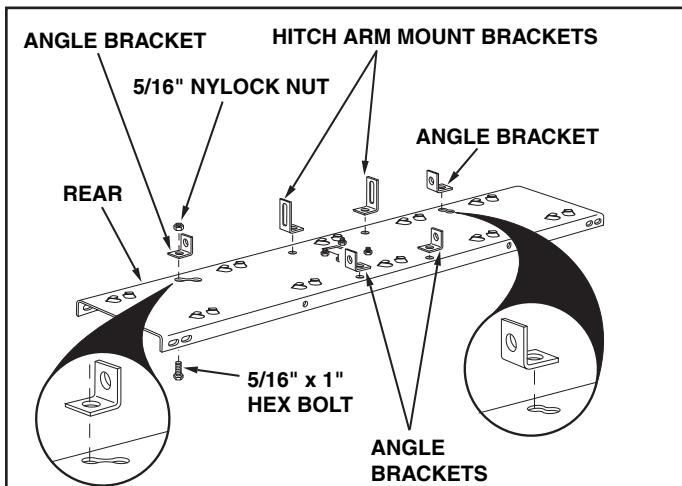

FIGURE 2
2. Turn the tine shield upside down. See figure 2.
3. Assemble two (tall) hitch arm mount brackets and two (short) angle brackets to the bottom of the tine shield at the rear. Use four 5/16" x 1" hex bolts and 5/16" nylock nuts. **Do not tighten yet**. Position the brackets as shown in figure 2.
4. Assemble two angle brackets to the bottom of the tine shield at the front. Use two 5/16" x 1" hex bolts and 5/16" nylock nuts. **Do not tighten yet**. Position the brackets as shown in figure 2.